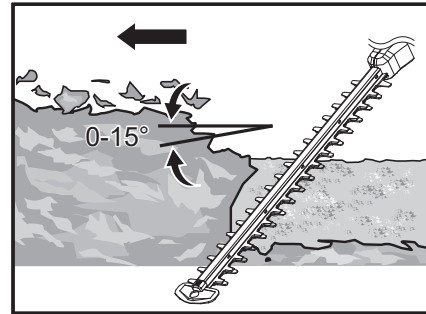

Fig. 28
8. After cutting the sides proceed to the top. Try to keep the cutting device angled at approximately 15° to the cutting surface (Fig. 28).